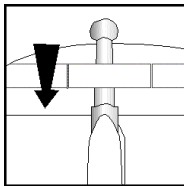

Figure 27
2. Push toggle completely down through webbing slot. **See figure 27.**